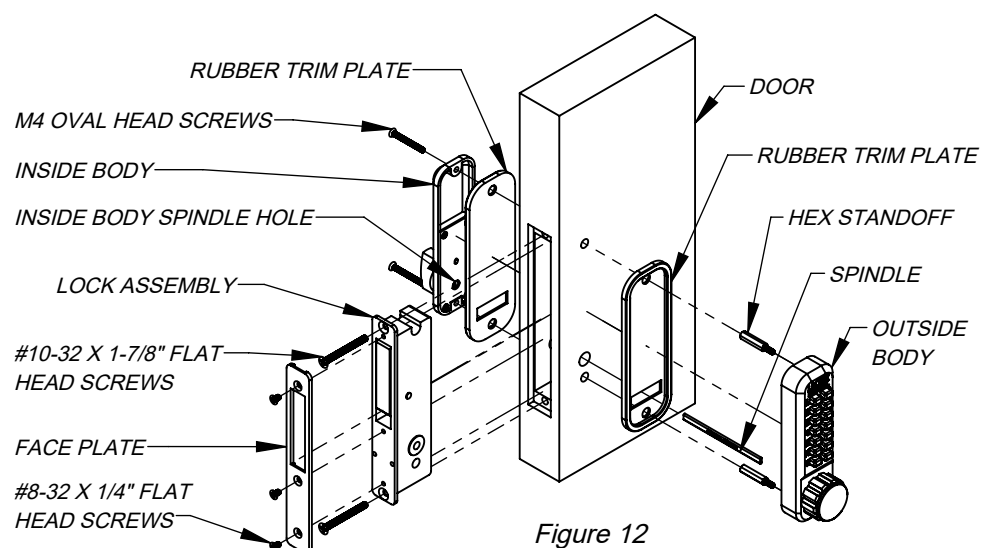

Figure 12
- 7) Install two hex standoffs in the outside body (Figure 12), place the rubber trim plate on the outside body and place the outside body on the outside of the door. Insert the spindle into the spindle hole.
- 8) Place the rubber trim plate on the inside body. Place the inside body on the door so that the spindle goes into the spindle hole of the inside body (Figure 12). Secure using the provided M4 oval head screws (use either the 35MM long or 50MM long screws depending on your door thickness).